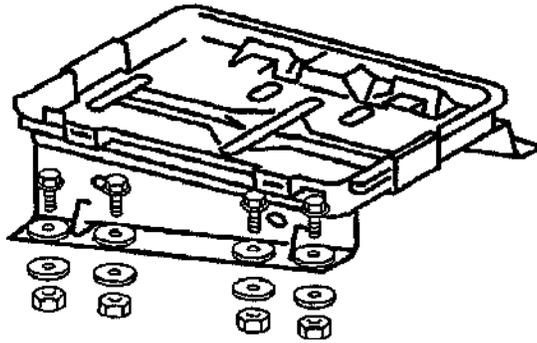

Fig 4, Battery tray installation
5. The battery tray (A 901 660 04 31) does not have any mounting holes, since it is designed to be welded to the floor. Modify the tray by drilling four holes on both flanges (eight holes total), and mount it to the floor using eight 3/8" SAE (grade 8) bolts and 1" O.D. washers. See **fig.4.** Remove